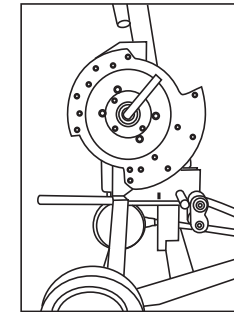

Fig 2
- ally turning the shoe until the 1.25" side of shoe is facing down (Fig. 2).